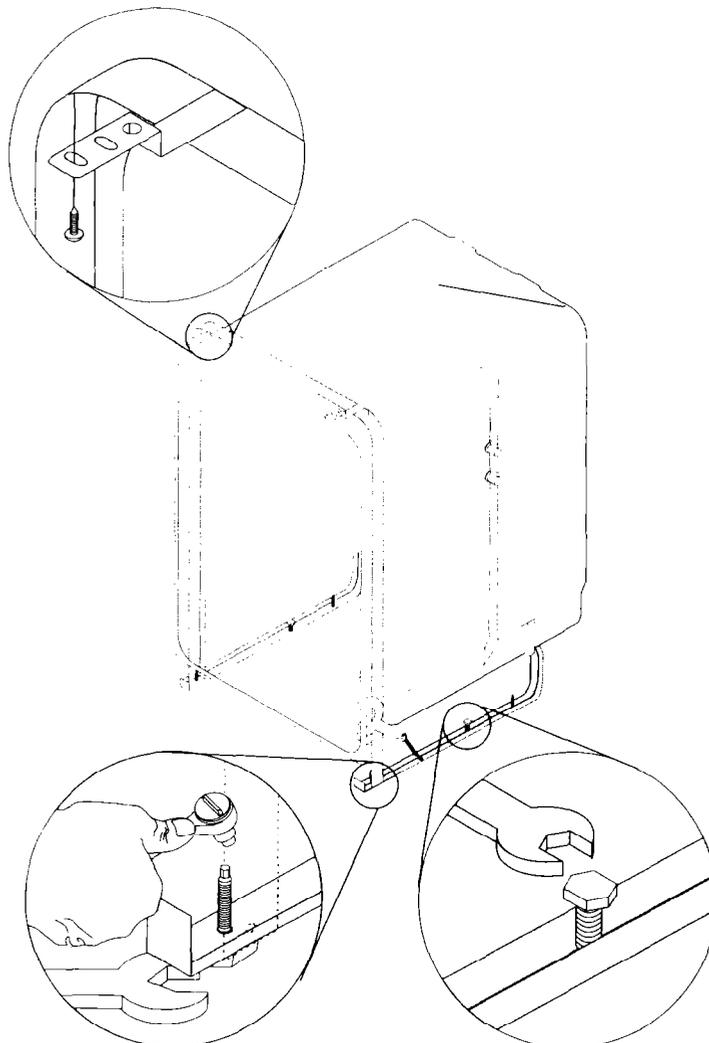

Figure 16
1. If necessary, adjust leveling screws so mounting brackets touch the underside of the countertop (see Figure 16).
1. Screw $\frac{1}{4}$ " lag screws (not included) through the holes provided in the frame rail (see Figure 16).